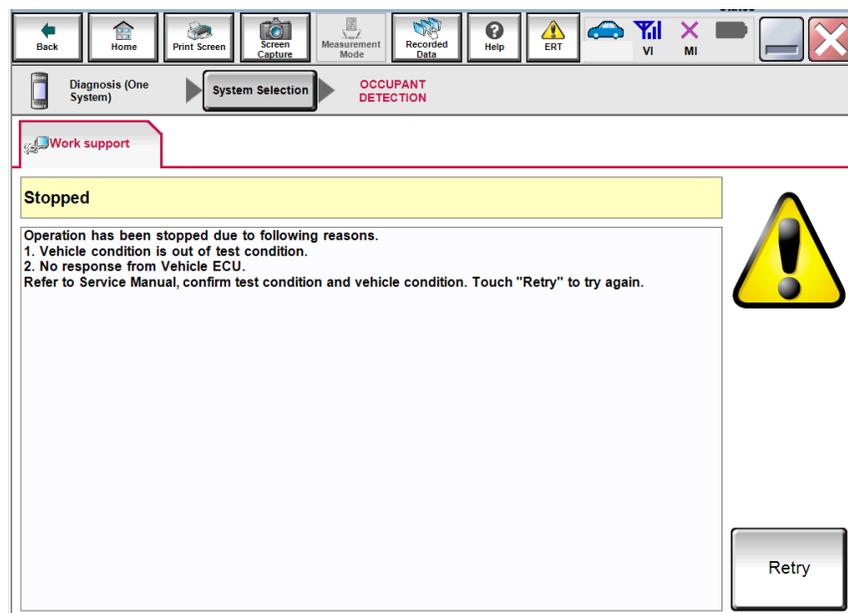

Figure 14
- After selecting **Start** if Figure 14 is displayed: